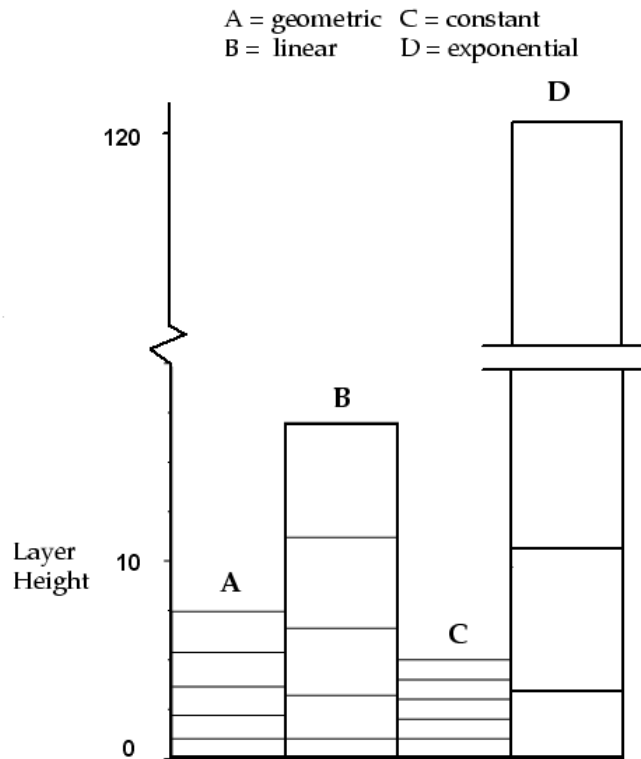

Figure 10.10.1: Layer Heights Computed Using the Four Growth Methods
**Growth Method** contains a drop-down list of the methods available for computing the prism height. Figure 10.10.1 shows layer heights for all four methods, using a first height of 1 and a slope/rate/exponent of 1.2.